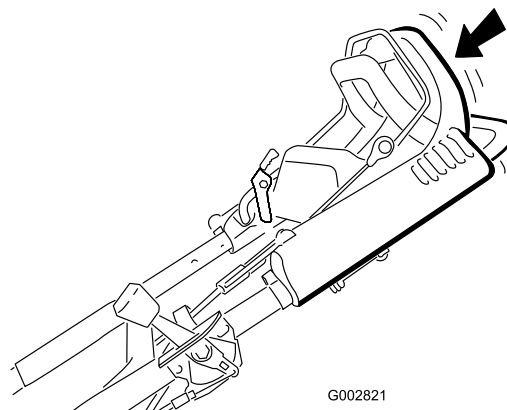

Figure 17
1. To operate the self-propel drive, simply walk with your hands on the upper handle (Figure 17) and your elbows at your sides, and the mower will automatically keep pace with you.